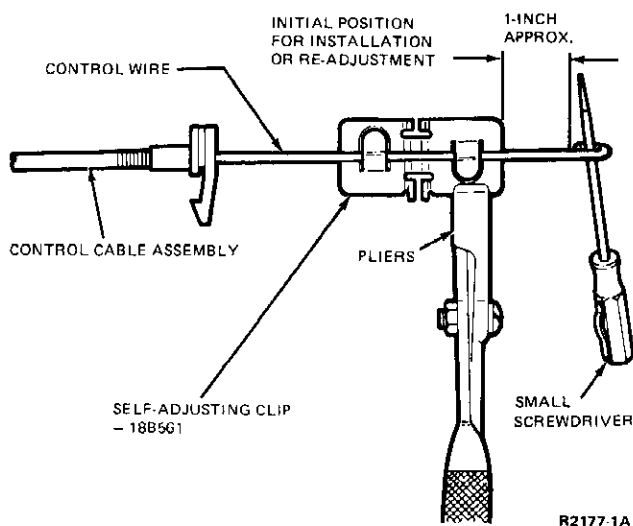

FIG. 26 Control Cable Pre-Set Adjustment
1. Insert the end of a small pocket screwdriver in the end loop of the temperature control cable, at the crank arm (Fig. 26).
2. Slide the self-adjusting cable attaching clip down the shaft (away from the loop) approximately one (1) inch.